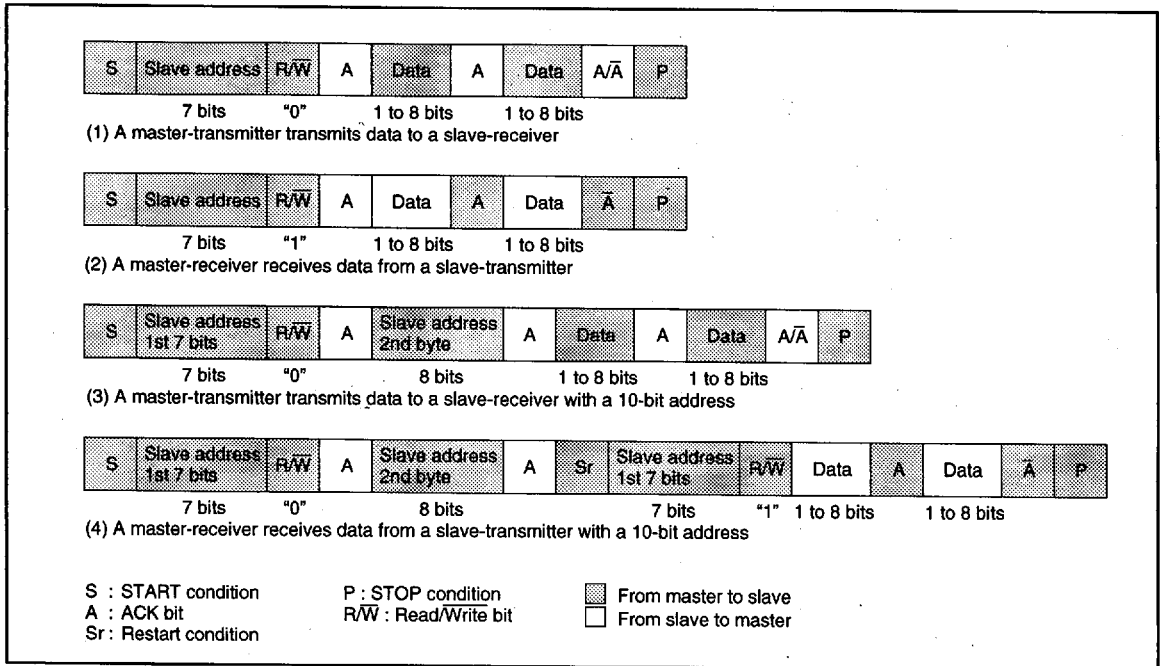

Fig. 44. Address data communication format
To meet the 7-bit addressing format, set the 10BIT SAD bit of the I2C control register (address 00F916) to "0." The first 7-bit address data transmitted from the master is compared with the high-order 7-bit slave address stored in the I2C address register (address 00F716). At the time of this comparison, address comparison of the RBW bit of the I2C address register (address 00F716) is not made. For the data transmission format when the 7-bit addressing format is selected, refer to Figure 44, (1) and (2).
When the first-byte address data matches the slave address, the AAS bit of the I2C status register (address 00F816) is set to "1." After the second-byte address data is stored into the I2C data shift register (address 00F616), make an address comparison between the second-byte data and the slave address by software. When the address data of the 2 bytes matches the slave address, set the RBW bit of the I2C address register (address 00F716) to "1" by software. This processing can match the 7-bit slave address and R/W data, which are received after a RESTART condition is detected, with the value of the I2C address register (address 00F716). For the data transmission format when the 10-bit addressing format is selected, refer to Figure 44, (3) and (4).
- ⑥ •When all transmitted addresses are "0" (general call)